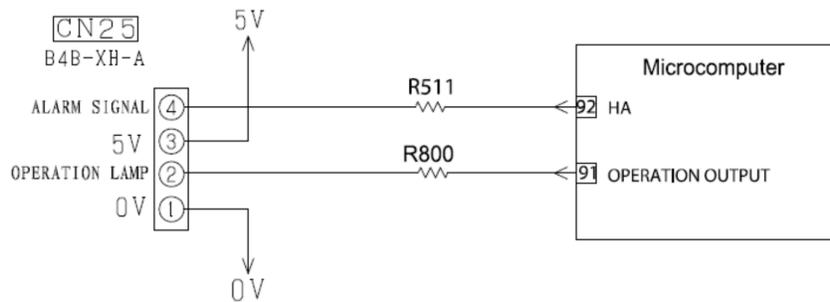

Fig 13-1
Fig. 13-1 is control circuit of run status and signal output in main PWB. The pin ② of CN25 is used to show run status and the pin ④ of CN25 is used to warn people when failure occurrence.